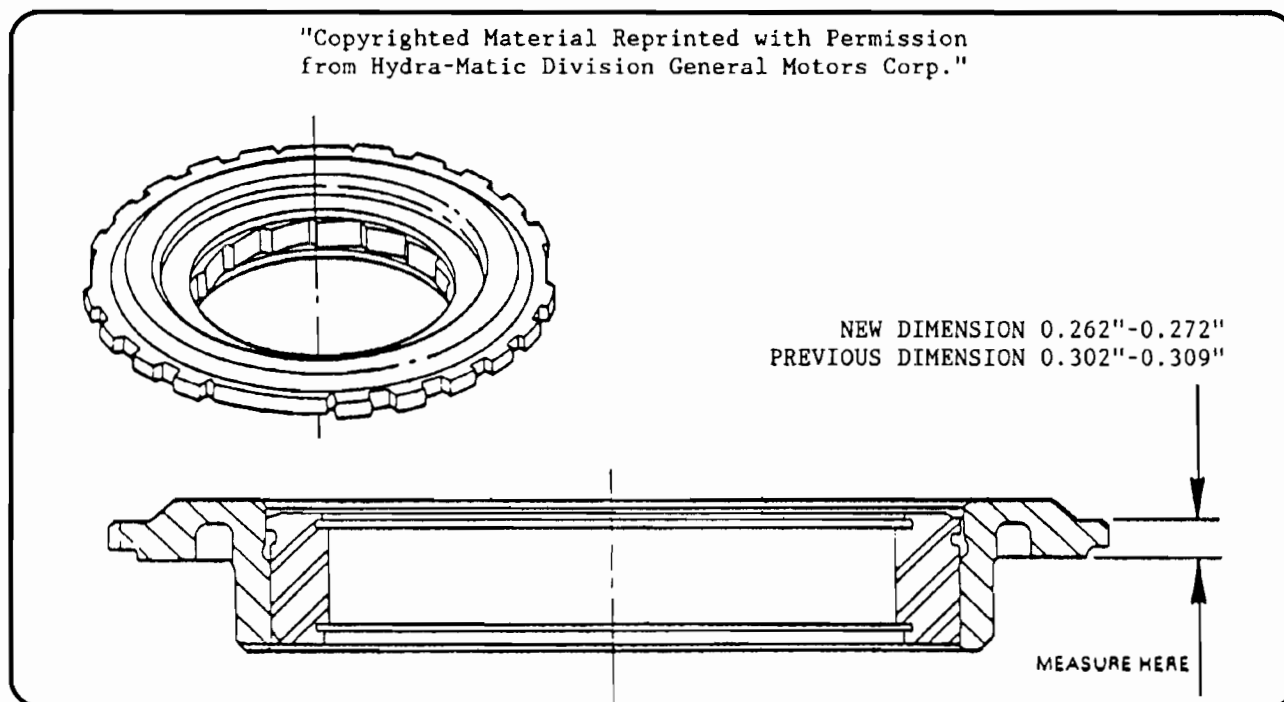

Figure 33
- (2) LOW/REVERSE CLUTCH SUPPORT - Now .040" thinner than the previous support. The ONLY way to identify the new Low/Reverse Clutch Support is to measure its thickness with a micrometer (see figure 33).